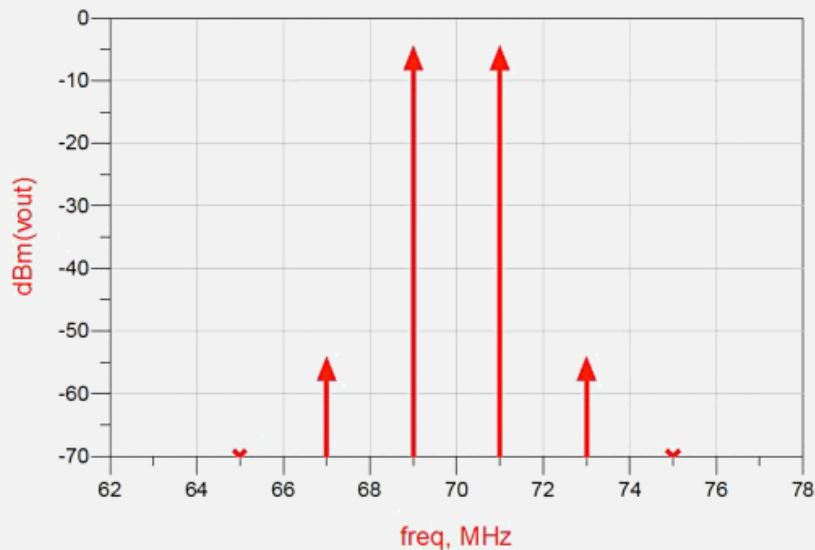

Figure 5. Vout spectrum 2tone simulation
- Click the **Simulate** button to run the simulation. Using the graph zoom icon in the data display, zoom in near 70 MHz to see the two-tone simulation results as shown in Figure 5.